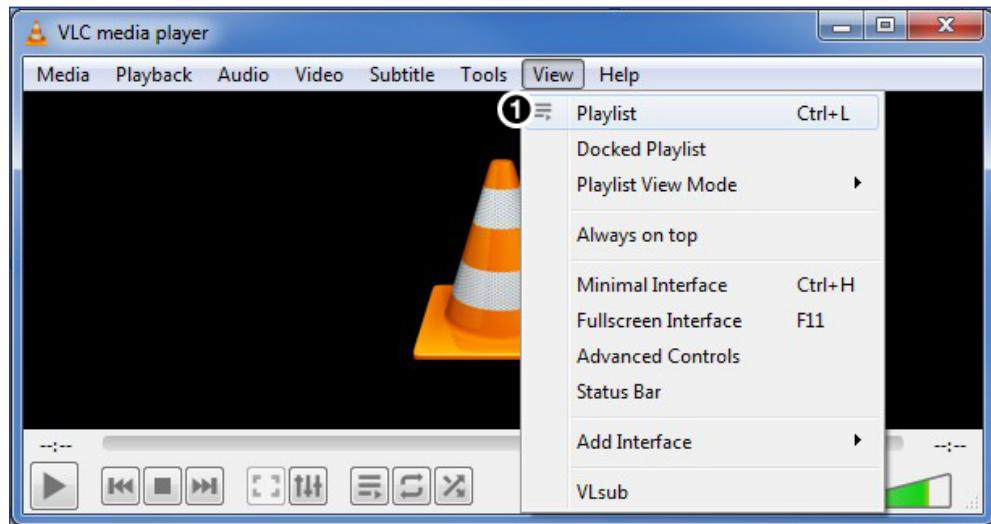

Figure 103. VLC Playlist
1. Open VLC. From the View menu, select **Playlist** (see figure 103).